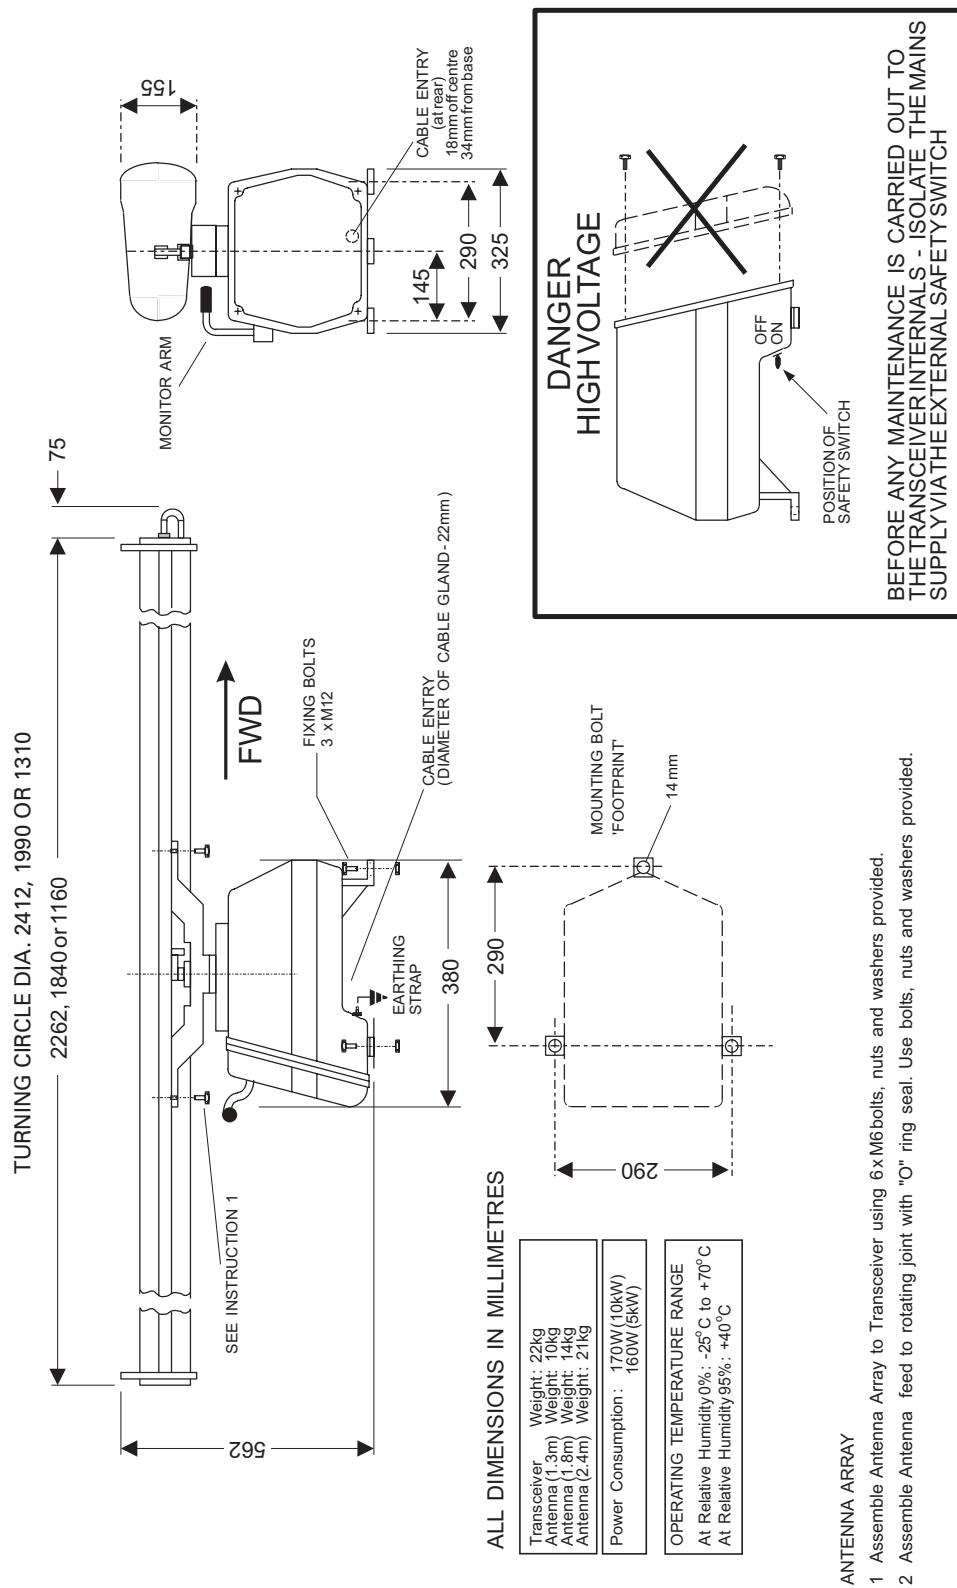

Figure 1c - Transceiver Fixing Centres and Outline Dimensions
- 17 The Antenna and Transceiver are specified and supplied separately. Refer to Figure 1c for outline dimensions and fixing centres. The following criteria are to be observed when installing: